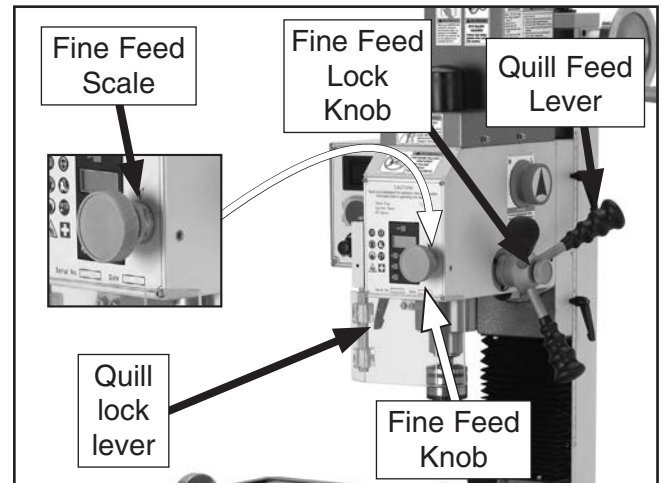

Figure 28. Fine spindle feed controls.
2. Rotate the fine feed knob to lower or raise the spindle in small increments. Observe the scale on the knob or the digital readout to monitor movement in thousandths of an inch (Figure 28).